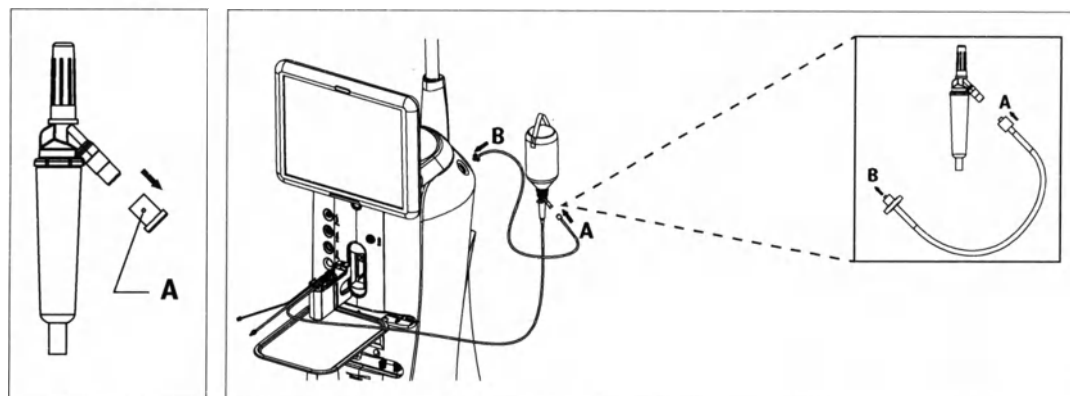

Figure 4.29. Pressurized Infusion Setup.
1. Remove the filter cap (A) from the bottle spike venting port that comes with the system disposable pack in Figure 4.29.
2. Connect the Air Tubing Line male connector to the bottle spike venting port (A) in Figure 4.29.
3. Connect the Air Tubing Line filter to the Vision Enhancement System air source (B) in Figure 4.29.